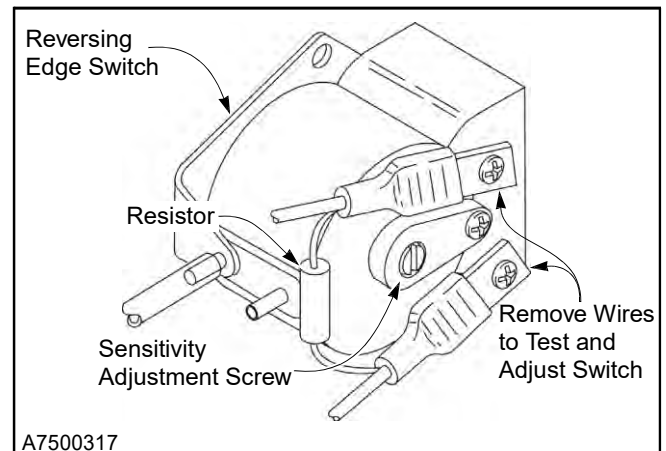

Figure 36
1. The reversing edge switch is a normally open contact. The PVC hose is on the lower air input post. To adjust the switch, first remove the wires and resistor from the contact terminals and attach an ohmmeter across the two terminals. (See Figure 36)
2. Turn the adjustment screw, located on the face of the switch, clockwise or counterclockwise until continuity is achieved. Then turn the screw  $\frac{3}{4}$  turn counterclockwise. Ohmmeter should no longer show continuity. Turning the screw counterclockwise decreases sensitivity. Turning the screw clockwise increases sensitivity. (See Figure 36)